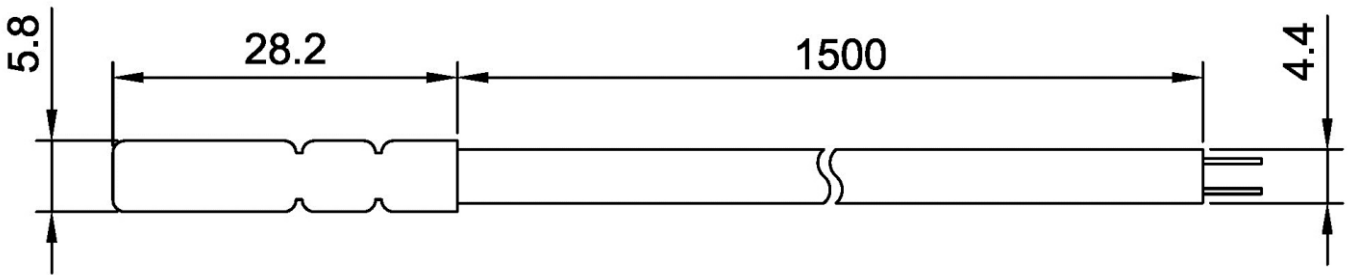

Fig. 2 – The appearance and overall dimensions
5.5 The appearance and overall dimensions are shown in Figure 2.